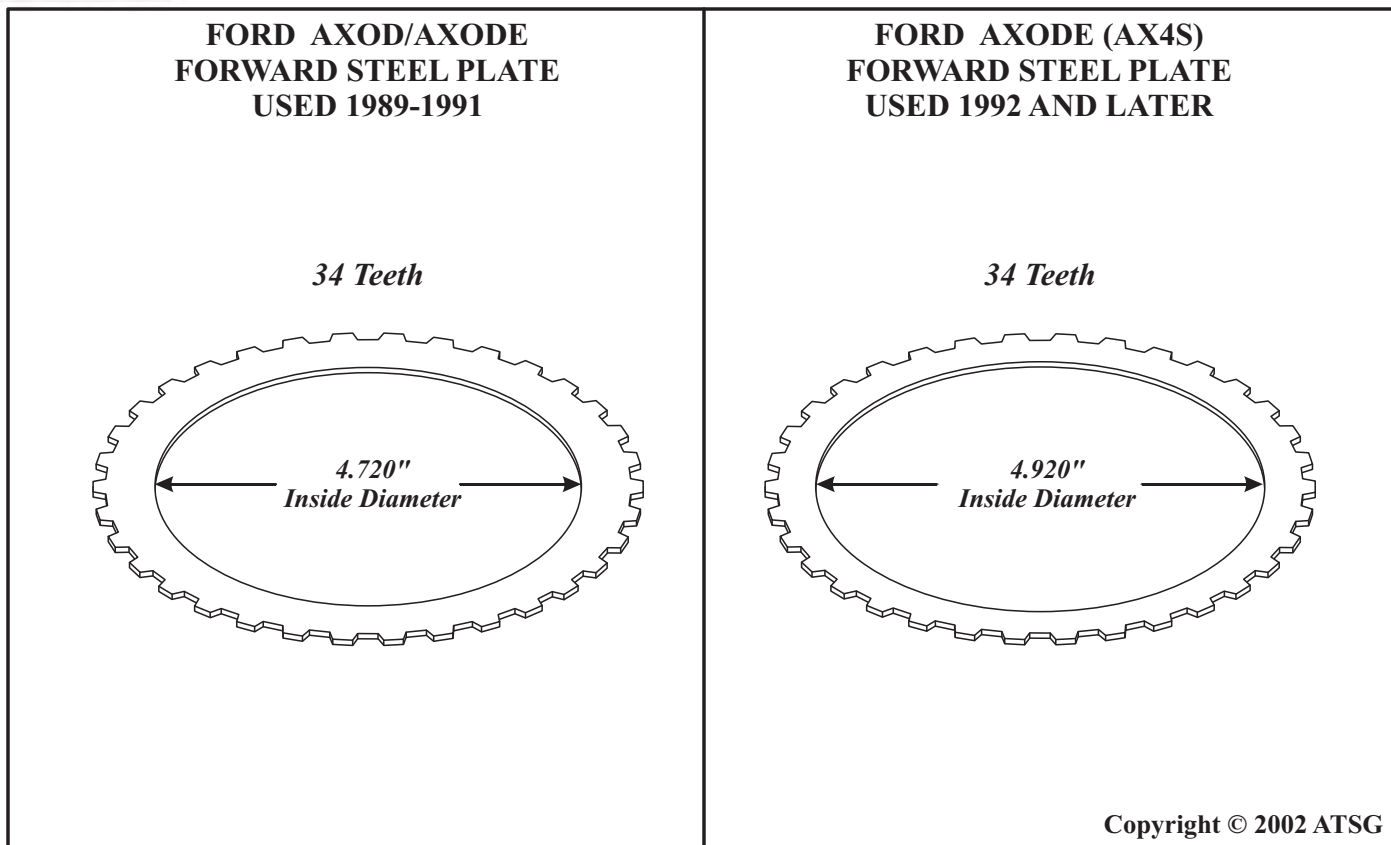

Figure 59
- (3) **FORWARD CLUTCH STEEL PLATES** - Have an increased inside diameter to 4.920" from the previous 4.720", to accommodate the increased diameter of the sprag outer race, as shown in Figure 59.